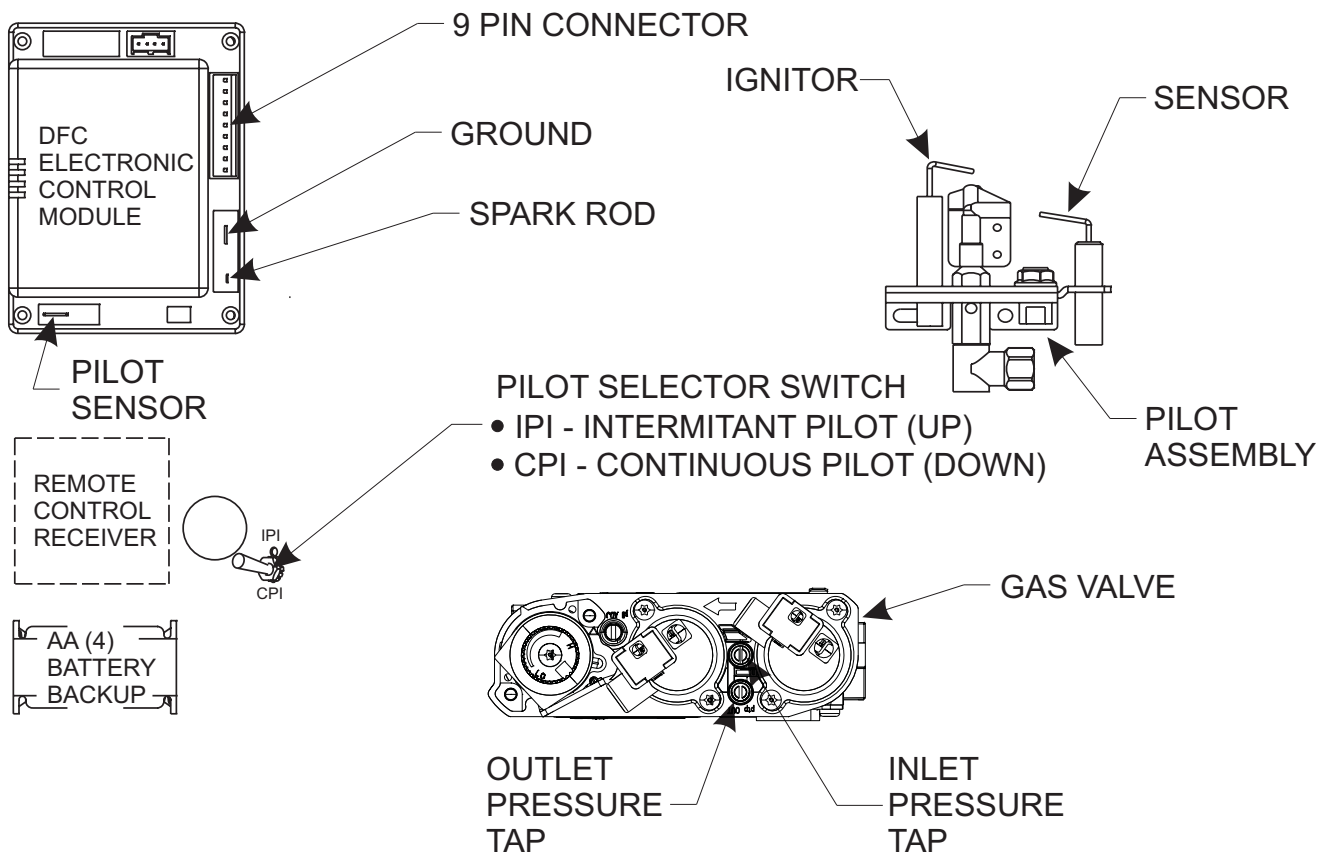

Figure 31
**NOTE:** A small toggle switch is located on a bracket that is used to switch from IPI (upward position) to the CPI (downward position). See Figure 31.
See Figure 31.
3. The gas valve has inlet and outlet pressure taps as shown in Figure 31. Refer to page 19 for gas pressure requirements.
**NOTE:** The gas control has a manual HI/LO flame adjustment knob (regulator) that allows you to increase or decrease the height of the burner flame. See Figure 31. Rotate the HI/LO knob counterclockwise to "HI" to increase the flame height, and clockwise to "LO" to decrease the flame height.